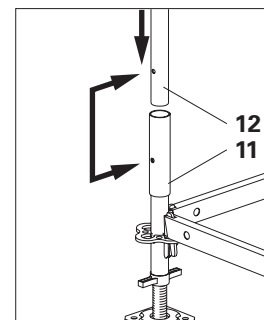

Fig. A2.03b
2. Allineare i fori. (Fig. A2.03b)